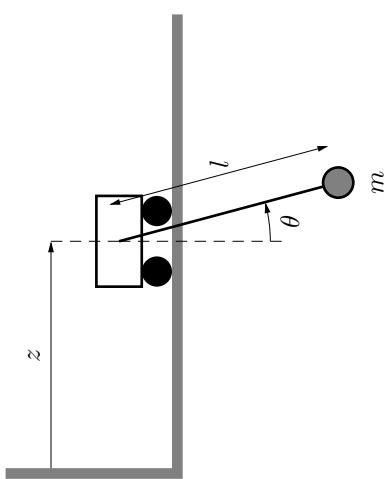

Figure 8.2a
- 8.2 Consider the system illustrated in Figure 8.2a. It consists of a hinge that can move in the direction marked “z”, and a thereto attached pendulum. The system is described by the equation